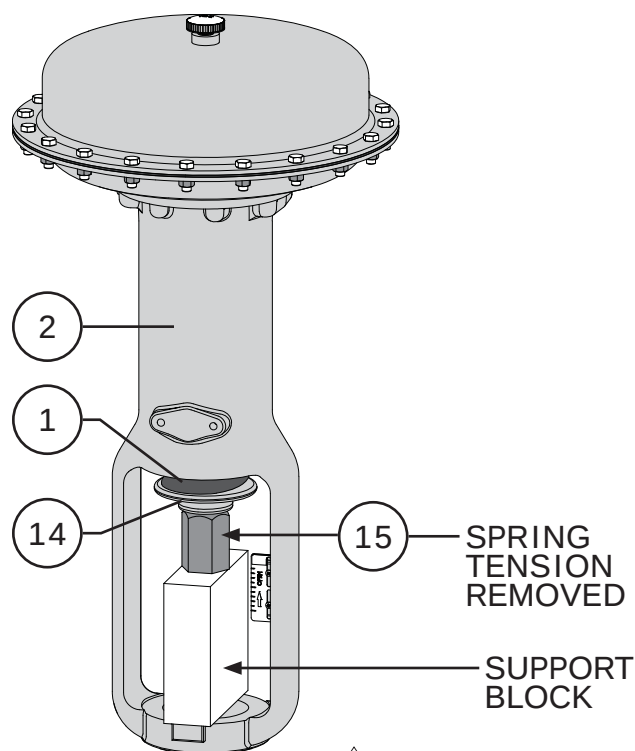

Figure 13 Spring Removal Step 1
- 1 Unscrew the spring adjuster (Key 15) from the actuator stem (Key 13) so as not to let the spring seat (Key 14) and spring (Key 1) drop out from the yoke (Key 2). Refer to Figure 13.